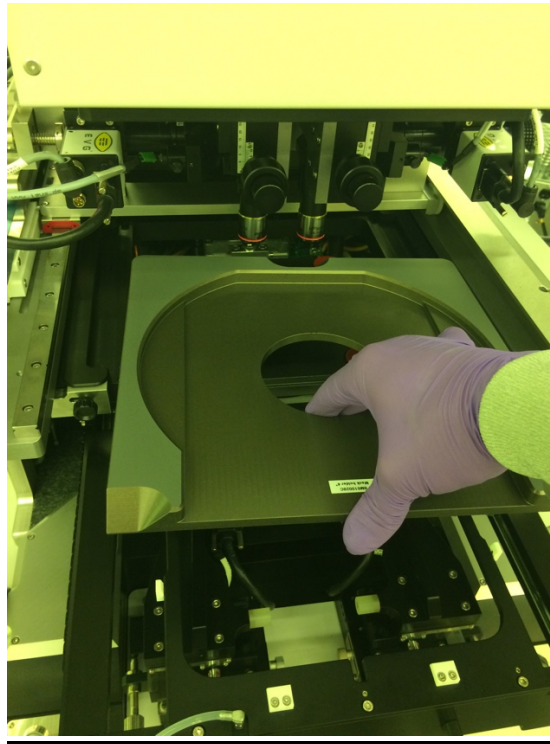

Figure 1: Correct handling and insert of the maskholder.
- iv. Insert the correct maskholder (4 inch or 5 inch) without hitting the optics or scraping along the bottom. See Figure 1 for correct handling and insertion.